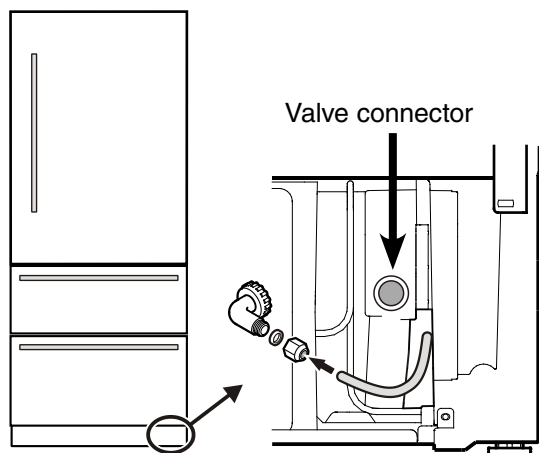

Figure 19
5. Remove the cover from the valve connector (**Figure 19**).
6. The water line is visible at the front of the appliance. Connect the water line to the OD adapter (**Figure 19**).